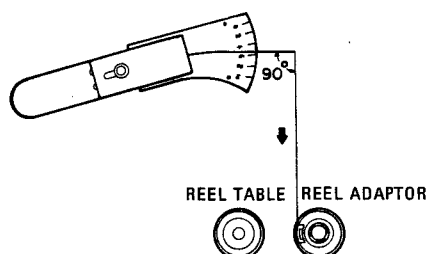
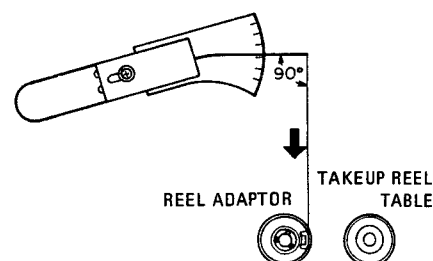

Fig. 6-2 TAKE UP and F.F. REEL TORQUE MEASUREMENT
Fig. 6-5 REWIND TORQUE MEASUREMENT
2. Attach the spring scale and special reel adaptor to the reel table as shown in Fig. 6-2.
1. Attach the spring scale and reel adaptor to the left or right reel table as shown. Refer to Fig. 6-2 for F.F., Fig. 6-5 for REW.